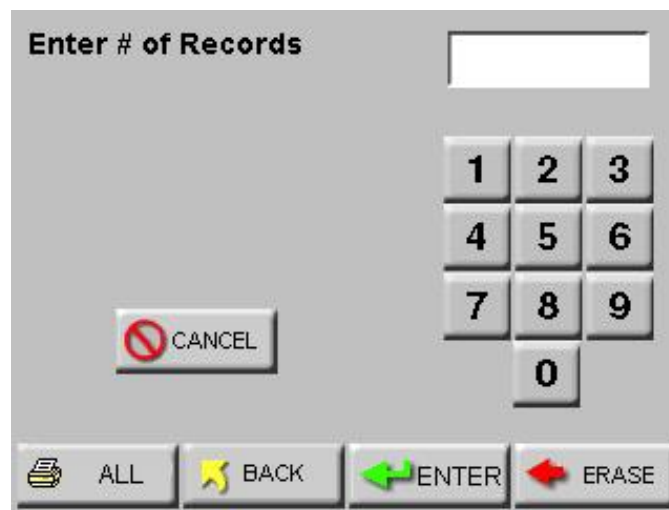

Figure 6-76 Print Range Screen
- Press the RANGE button. The Print Range screen displays as shown in Figure 6-76.